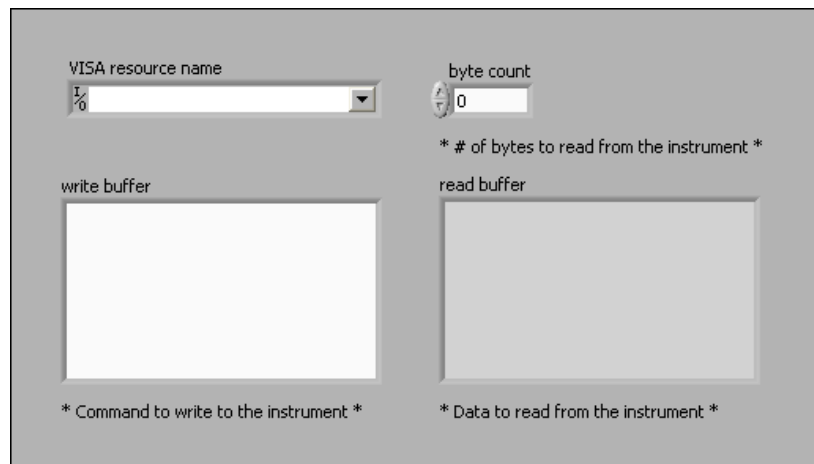

Figure 11.6
1. Open a blank VI. The front panel shown in Figure 11.6 will result from building the block diagram.